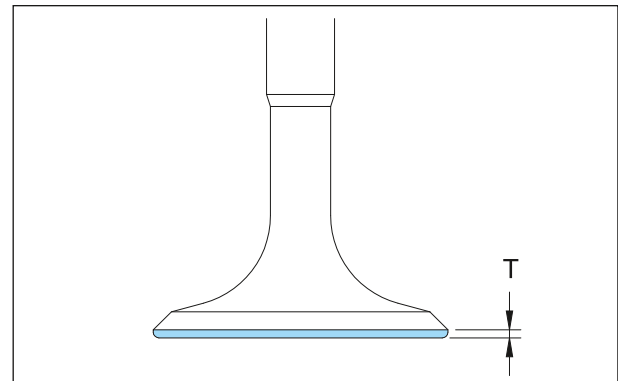

Fig. 3.119
- Measure the thickness of valve head. If the thickness is less than the service limit, replace the valve with a new one. (Fig. 3.119)